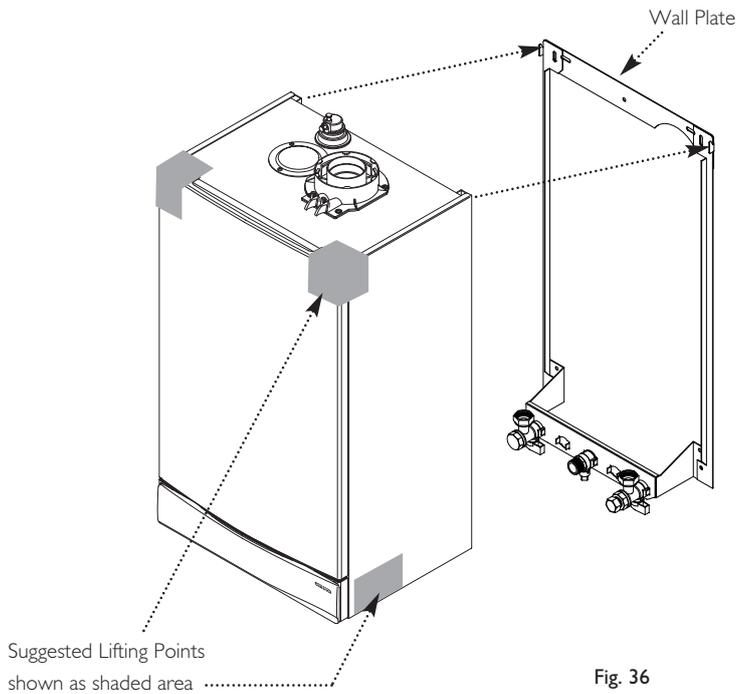

Fig. 36
1. Lift the boiler using the Lifting Points as shown by the shaded areas (Fig. 36). The boiler should be lifted by TWO PEOPLE. Engage the slots at the top rear of the boiler on the wall plate (Fig. 36) (see **Safe Manual Handling** page 5).